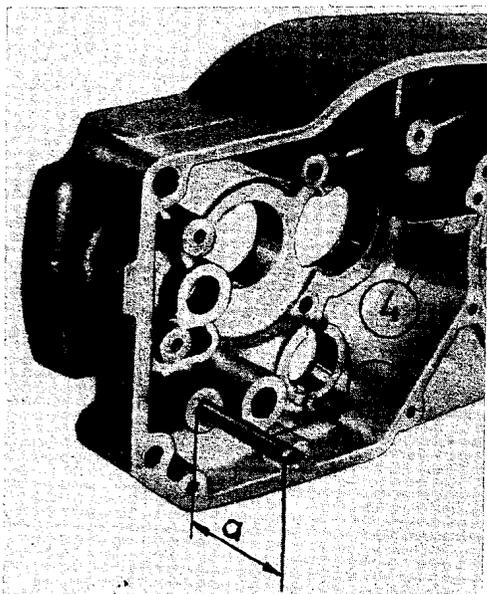

Fig. 57. Mounting the control stop and the oil guide plate
- Press the notched nail (1) for gear-shift detent spring into the left-hand casing half (clutch side);
- Press the notched pin (2) for fixing the position of the dynamo into the right-hand casing half;
- Press the fitting sleeve (3) and cylindrical pin (4) into the left-hand casing half at the clutch side;
- Press the cylindrical pin 8 x 80 (s), Fig. 57, for control stop, at a level of $a = 57_{-1}$ mm measured from the sealing surface, into the cold casing;